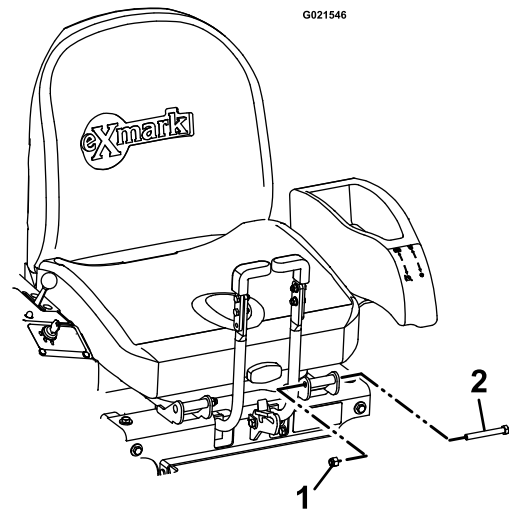

Figure 8
3. Remove the two bolts and two locknuts at the front of the seat where it is hinged. See Figure 8. Save the hardware.